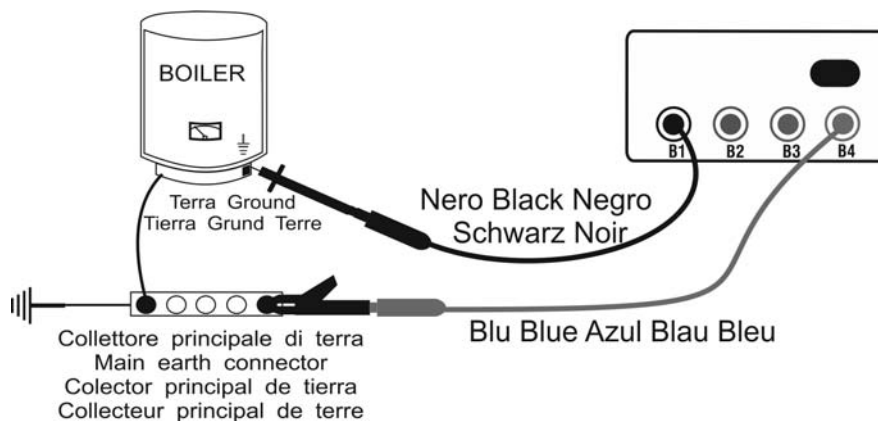

Fig. 4: Instrument connection for LOWΩ test
6. Connect the instrument terminals to the ends of the conductor whose continuity you want to test (see Fig. 4)